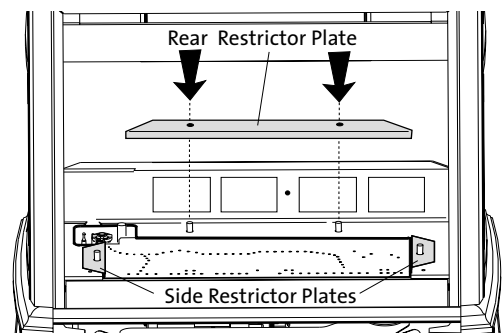

Figure 6. Installing the Air Intake Restrictor Plates.
2. Optional Restriction - Fig. 6.